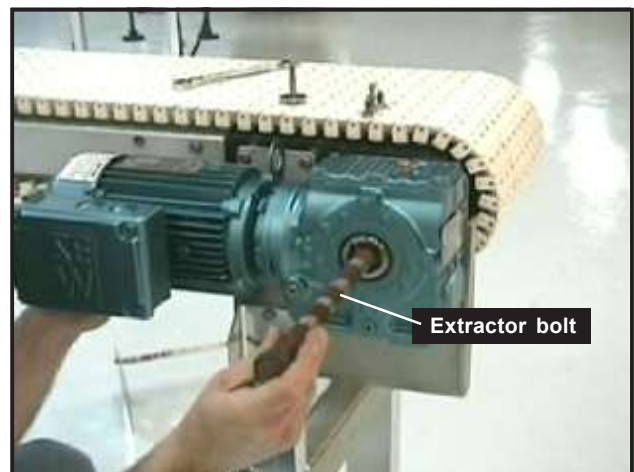

Figure 43: Insert extractor bolt to drive gearbox off shaft
- If the gearbox will not slide off, insert extractor bolt (see *Table A*, below) into the gearbox extractor, located at the end of the drive shaft (*Figure 43*).